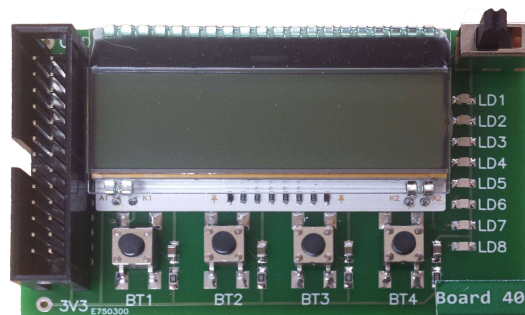

Figure 13 - Button-LEDs-LCD board [8]
- A control board with 4 buttons and 8 LEDs (Figure 13).